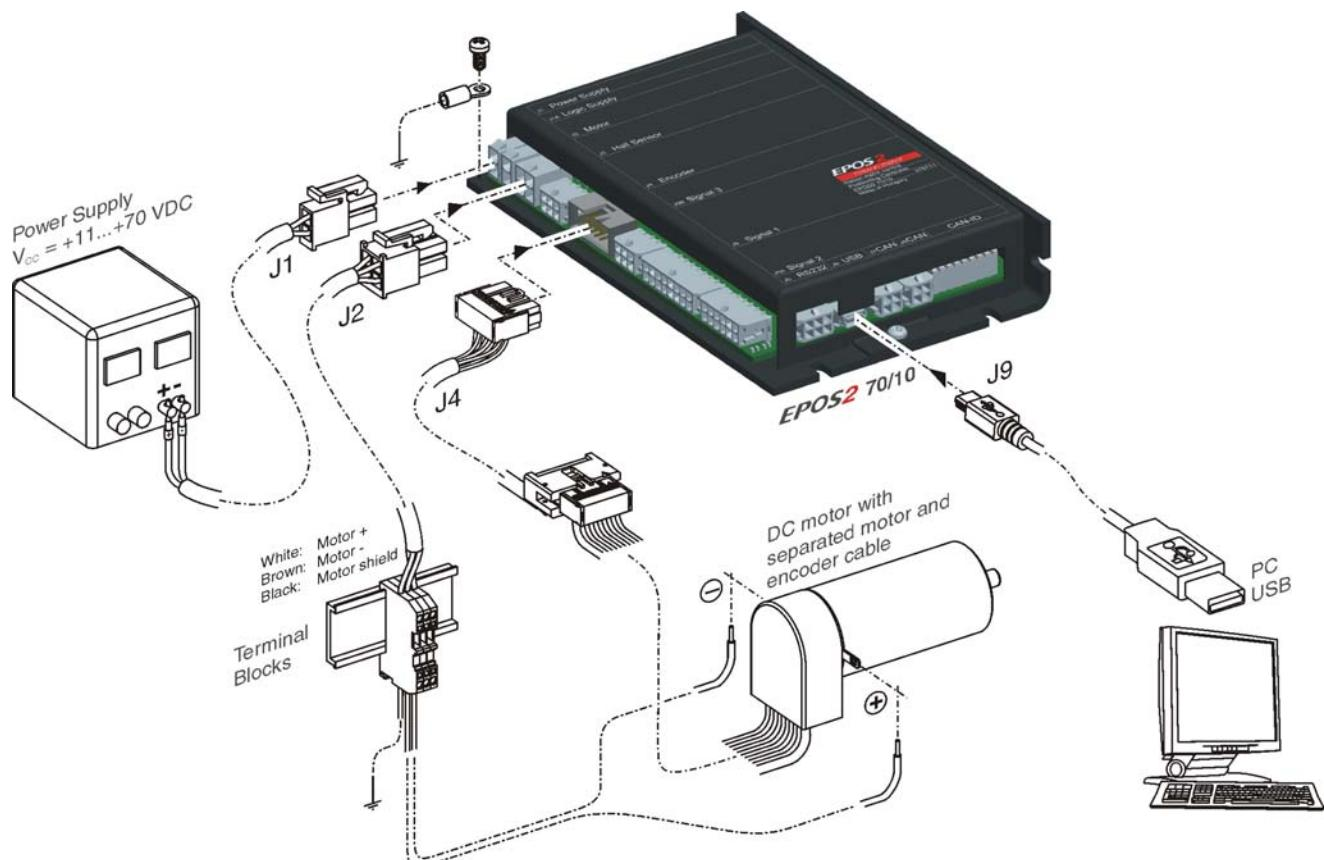

Figure 3-3 Minimum Wiring: maxon DC motor
- 2) Connect maxon cable assemblies (→Table 3-5 and Figure 3-3).